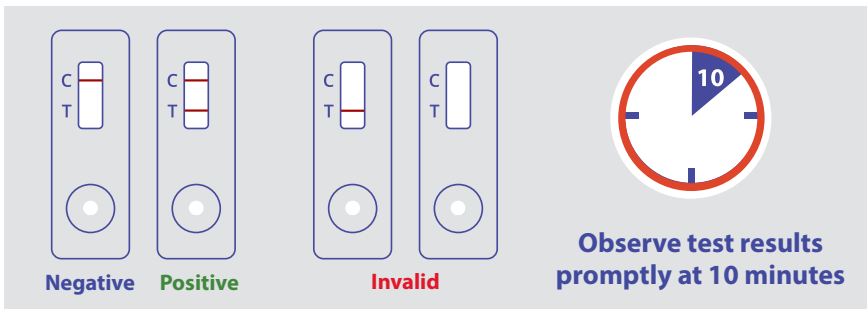

Figure 3. Test Outcomes
7.2.1. A negative result is indicated by the development of a strong control line only (upper line “C”). A negative result will not develop color at the test line (lower line). An example of a negative result is displayed in **Figure 3** labeled “**Negative**”.
7.2.2. A positive result will develop at the test line (lower line “T”) in addition to the control line (upper line “C”). The strength of the test line development will be dependent on the amount of gluten present in the sample; any visible line is considered to be a positive result. A positive result indicates that the sample contains at least as much gluten as the selected detection level according to **Table 1**. An example of a positive result is displayed in **Figure 3** labeled “**Positive**”.
7.2.3. Failure of the control line to appear regardless of test line development is an invalid result. In addition, any line malformation visible on the membrane denotes an invalid test. Examples of malformations would be dark spots, gaps or incomplete line development. Examples of invalid results are displayed in **Figure 3** labeled “**Invalid**”. In the event of an invalid test, the procedure should be repeated using a new test device.
8.2.1. A negative result is indicated by the development of a strong control line only (upper line). Negative results will not develop at the test line (lower line). An example of a negative result is displayed in **Figure 3** labeled "**Negative**".
8.2.2. A positive result will develop at the test line (lower line) in addition to the control line (upper line). The strength of the test line development will be dependent on the amount of gluten present in the sample. An example of a positive result is displayed in **Figure 3** labeled "**Positive**".
8.2.3. Failure of the control line to appear regardless of test line development is an invalid result. In addition, any line malformation visible on the membrane denotes an invalid test. Examples of malformations would be dark spots, gaps or incomplete line development. Examples of invalid results are displayed in **Figure 3** labeled "**Invalid**". In the event of an invalid test, the procedure should be repeated using a new test device.